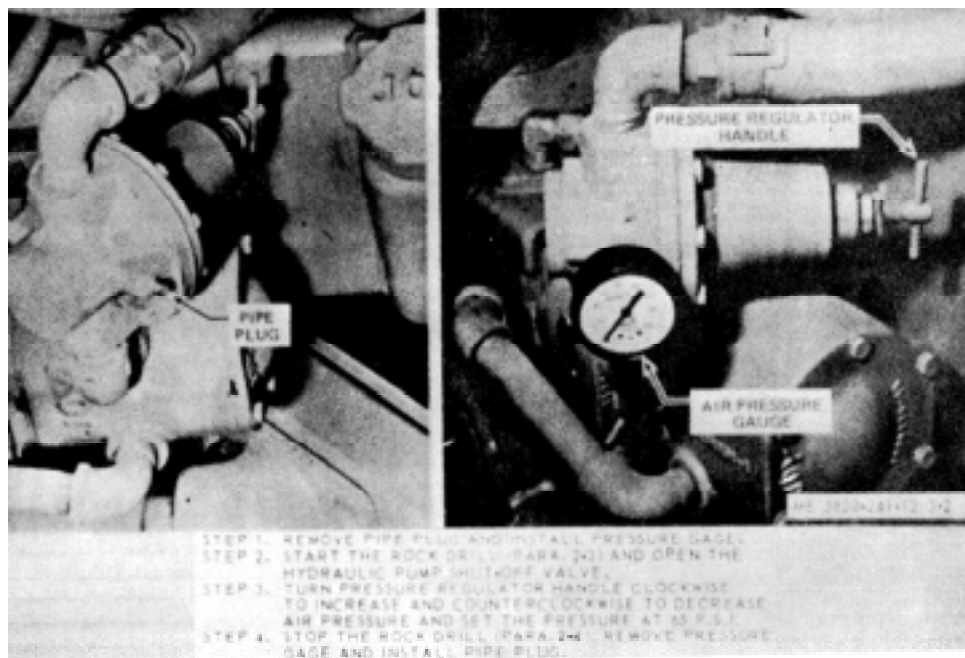

Figure 3-2. Air pressure regulator adjustment
b. Adjustment. Adjust the air pressure regulator as illustrated in figure 3-2.